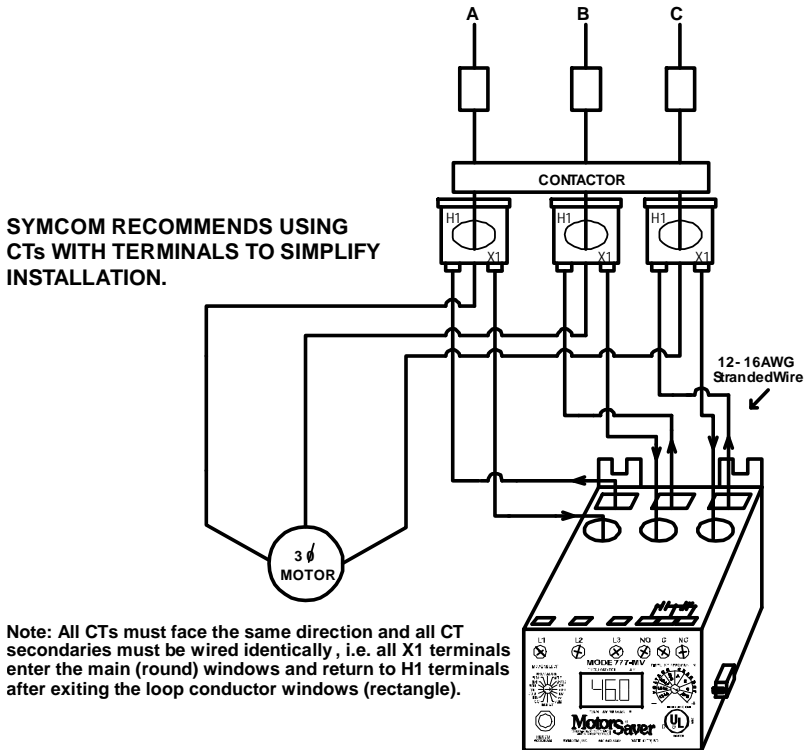

Figure 1. Typical Wiring Diagram for CTs
- External current transformers (CTs) must be used with the 777-MV (see Figure 1). If the motor full load amps is 12.5–25A, the CT secondaries must pass through the 777-MV twice. Insert the CT secondaries down through the round holes, back up through the rectangular holes, and back down the round holes on the 777-MV.